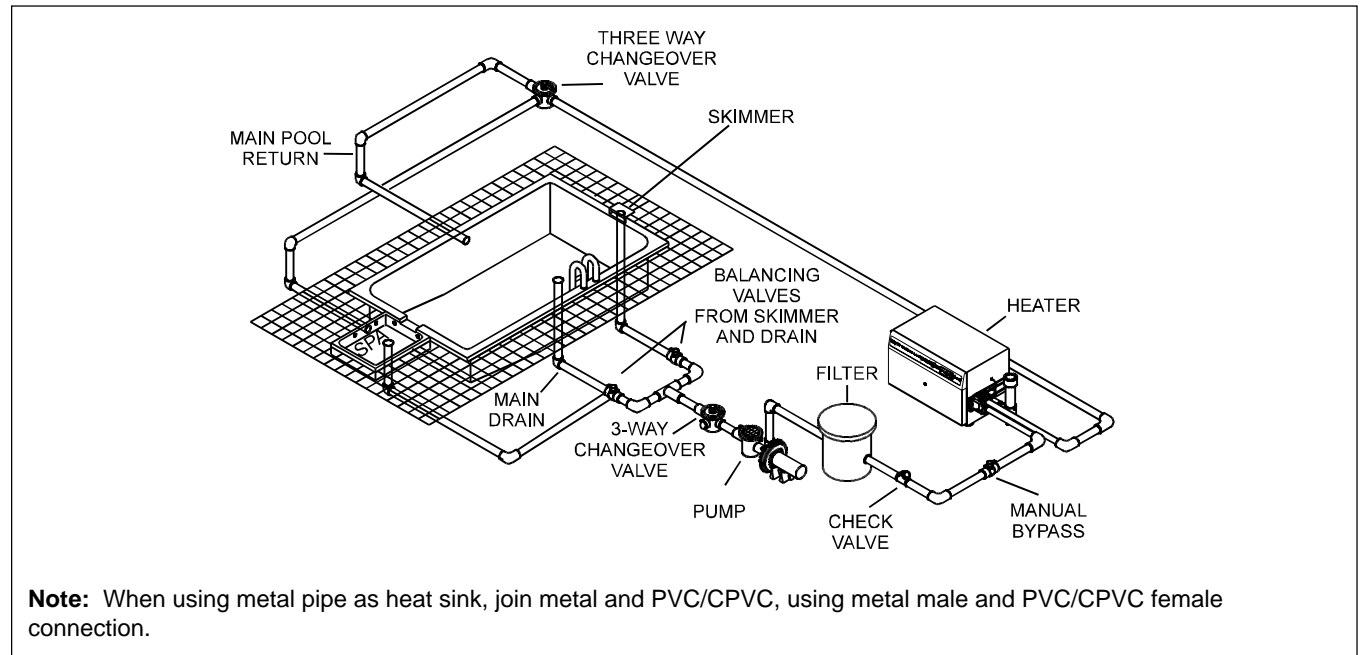

Figure 16. Typical Installation
The automatic flow control valve maintains the proper flow through the heater at rates up to approximately 125 Gallons Per Minute (GPM) (474 liters per minute [LPM]). If the system filter-flow rate is higher than approximately 125 GPM (474 LPM), install a manual bypass valve (see Figure 16), then perform a temperature rise test (see Section 2G-8) and adjust the flow with the bypass valve until the proper temperature rise is obtained.
- b. The system's water flow exceeds 125 GPM (474 LPM), and requires a manual bypass valve for proper operation (see Figure 16).